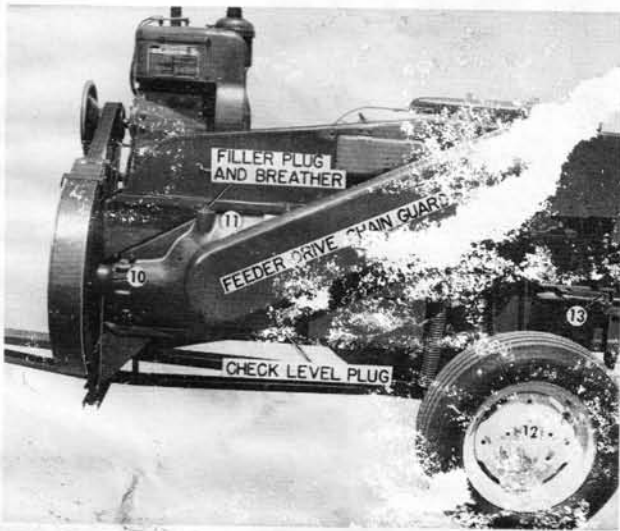

FIGURE 5
10. Figure 5—Flywheel shaft. Do not force, grease only until slight pressure can be detected.
11. Figure 5—Gearbox. Check oil level every 5000 bales, fill to level plug with a good grade hypoid lubricant. SAE 90.
12. Figure 5—Ground wheels. Pack once each season with wheel bearing grease.
13. Figure 5—Needle safety latch.